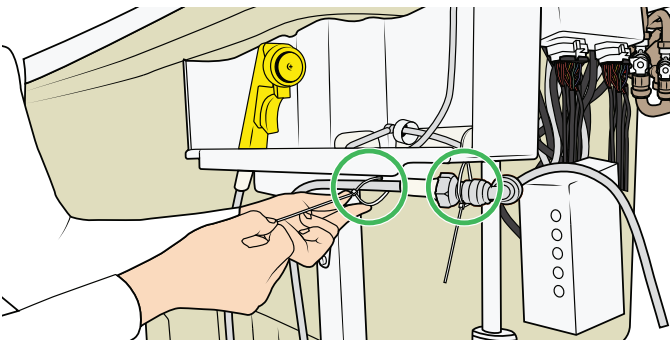

Figure 89
28. Secure the disinfection hose and the scale connector (aligned with the cable) with two cable ties. See Figure 89.